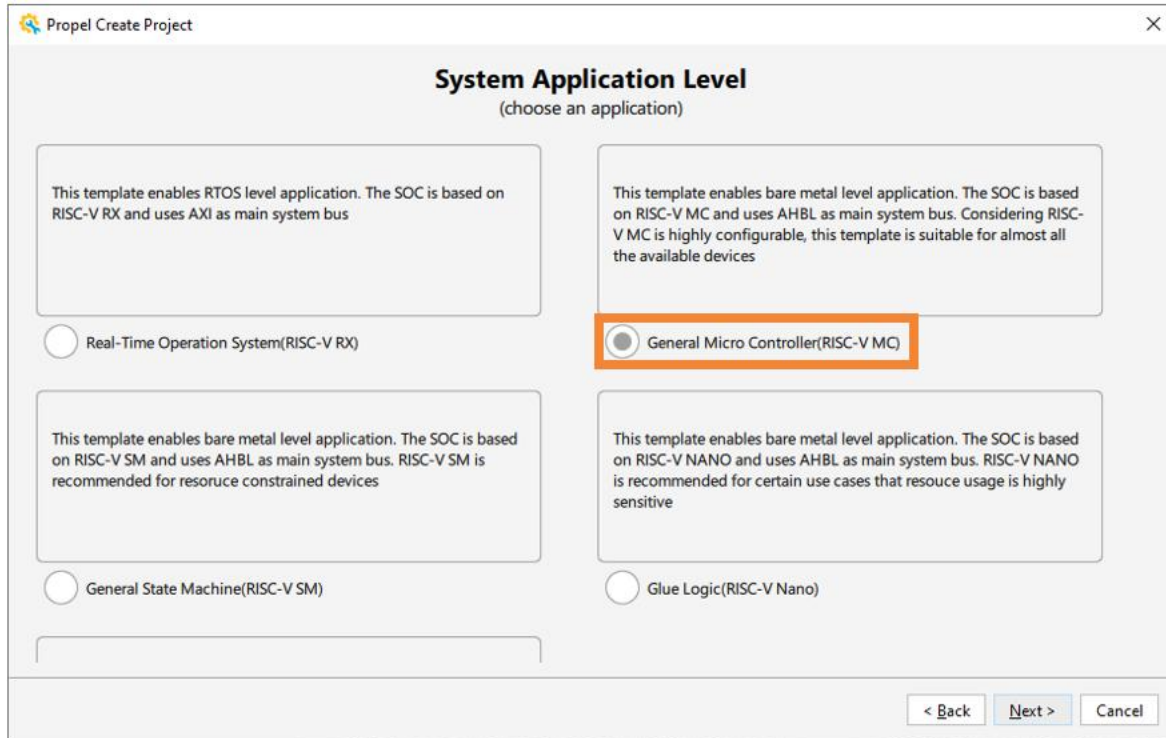

Figure 6.5. Selecting General Micro Controller RISC-V MC for System Application Level
3. Click **Next**. Choose **General Micro Controller RISC-V MC** (Figure 6.5).